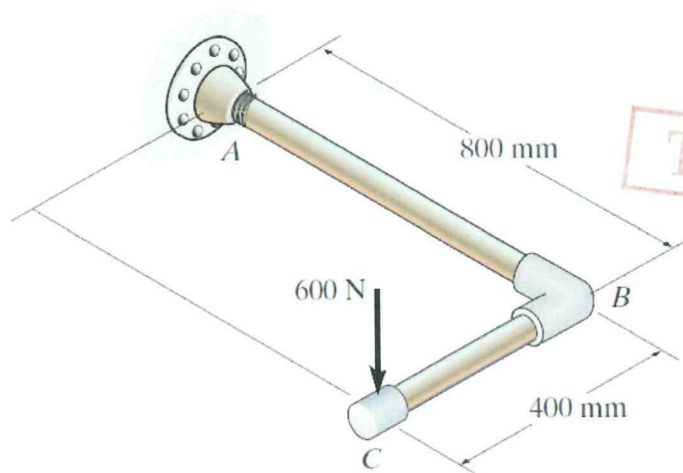

Figure Q6
- Q6** The **Figure Q6** shows the pipe assembly is fixed at A. TERBUKA